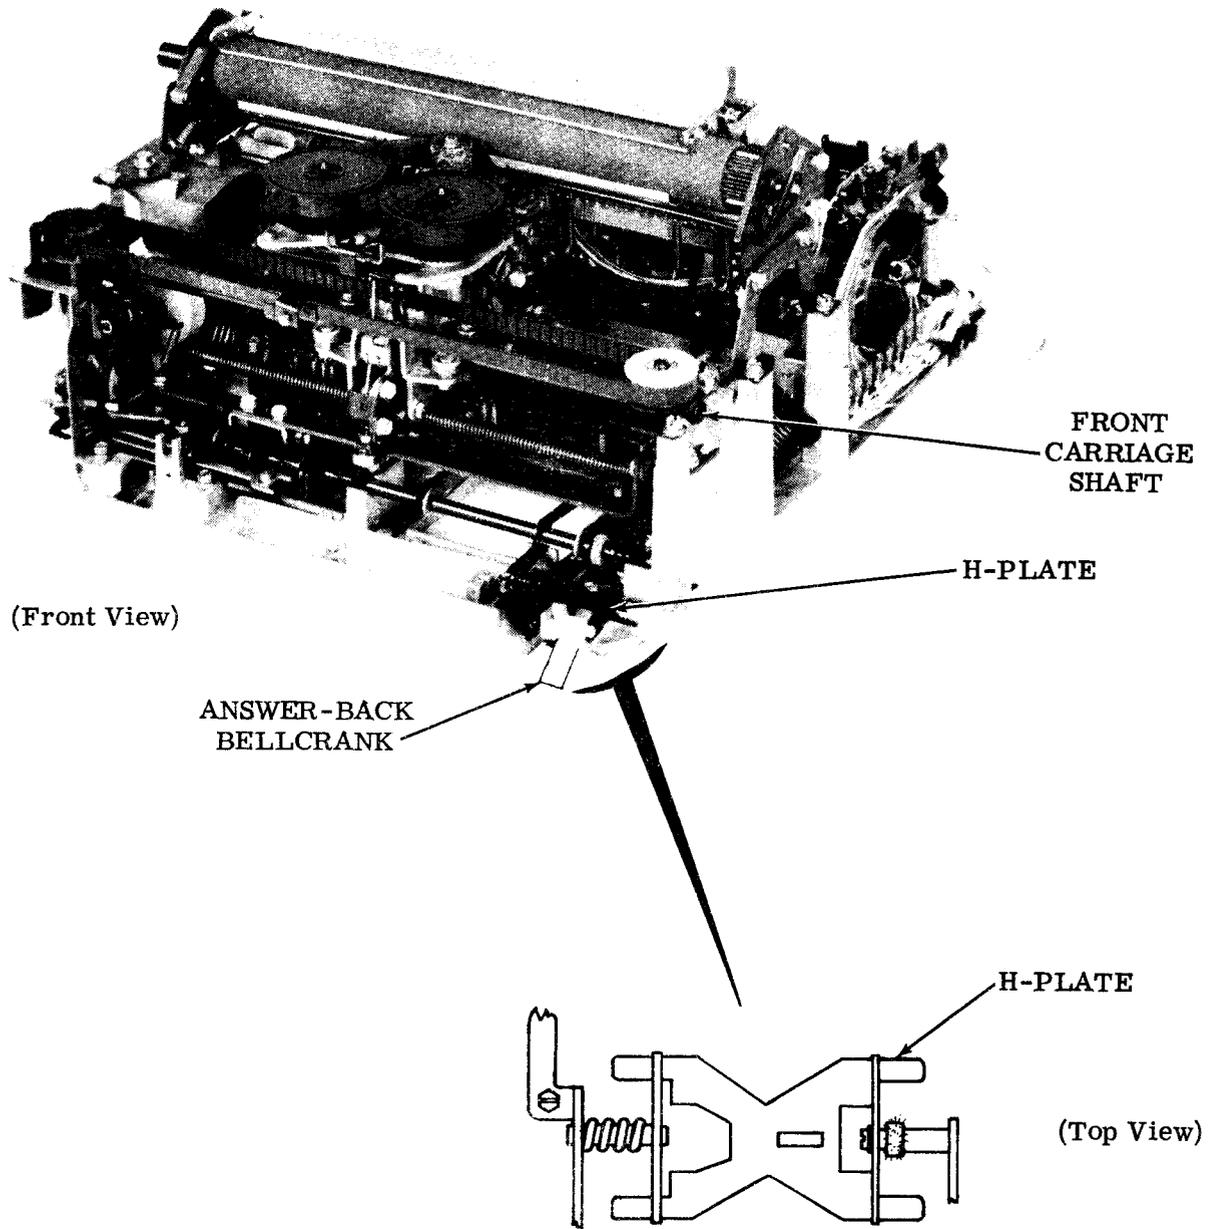

Figure 2 - Typing Unit
2.02 To remove typing unit (Figure 2), proceed as follows.
(c) Insert screwdriver in slot of TP180977 H-plate and push to left against pressure of spring until plate is disengaged from universal lever. Remove H-plate. (See Figure 2)